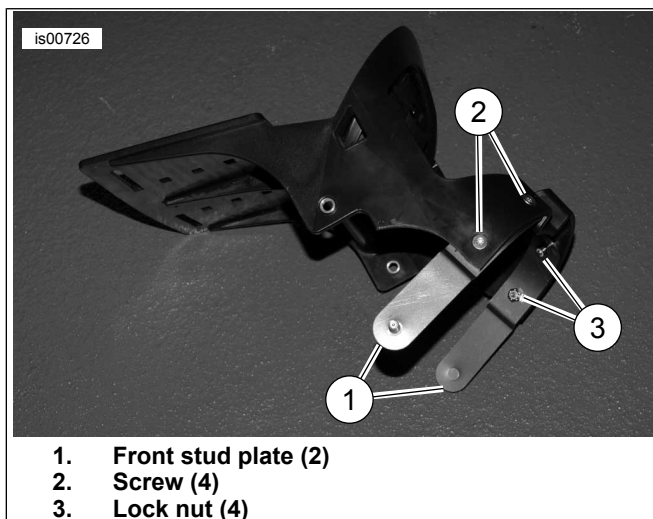

Figure 4. Install Front Stud Plates
15. See Figure 4. Install two front stud plates (1) to the license plate bracket using four screws (2) and locknuts (3). Tighten lock nuts to 2.3 N·m (20 in-lbs).